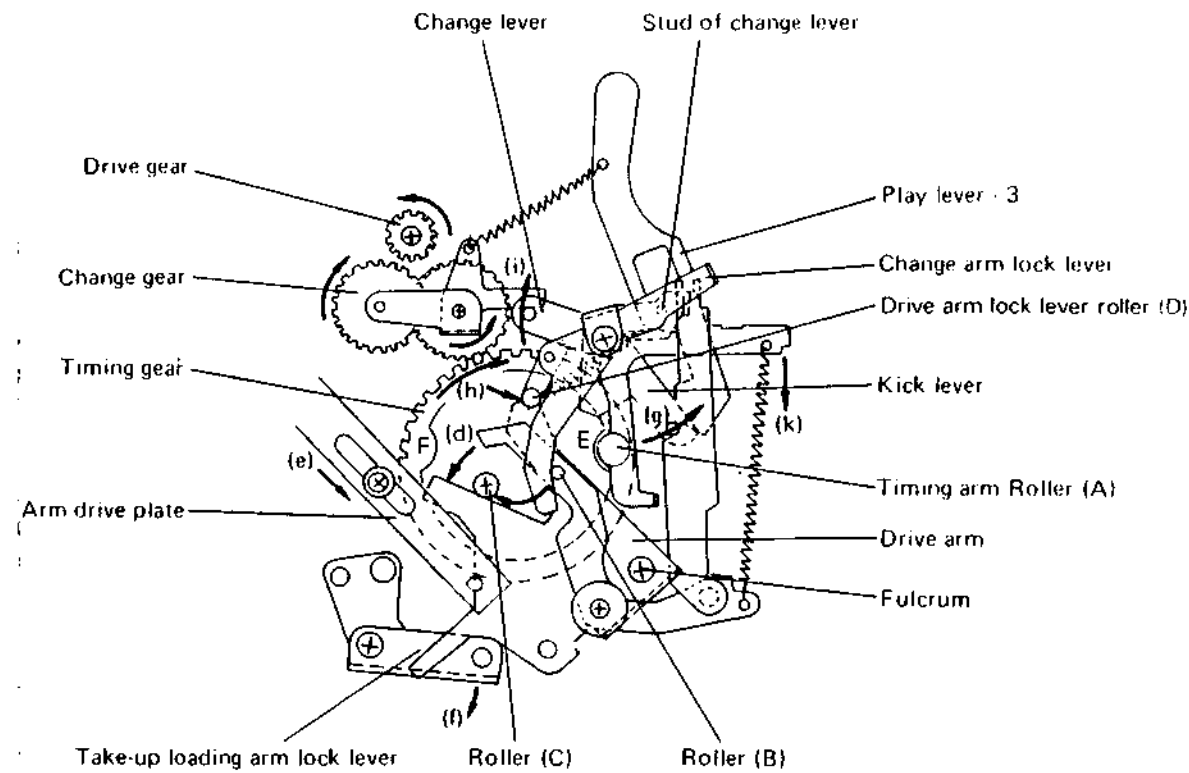

Fig. 2-12 Play mode mechanism (bottom view)
Refer to Fig. 2-12, Play mode mechanism (bottom view). By the rotation of the roller (C) on the timing gear, the drive arm moves to arrow (d) and the arm drive plate is pulled to arrow (e).